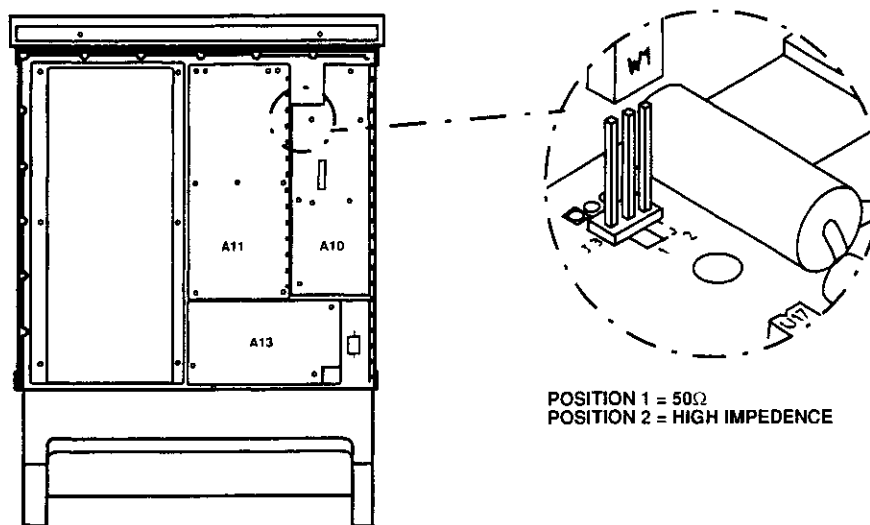

Figure 2-6. Pulse Modulation Input impedance selection
- Refer to Figure 2-6. Locate the selection link W1. When this is set to position 1, the input impedance is set to 50 ohms; when it is set to position 2, the input impedance is set to high impedance. Set W1 into the position you require.